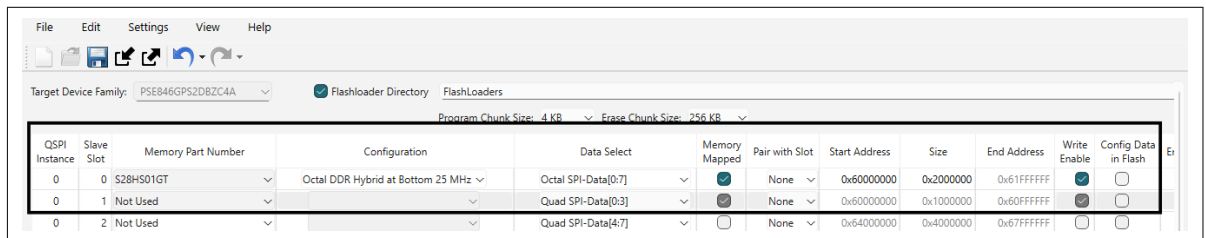

Figure 56 Enable the OSPI flash in QSPI Configurator
1. In the QSPI Configurator, select the OSPI Memory Part Number and select the configuration as needed. Disable the Quad SPI memory. An example configuration for OSPI supported by the PSOC™ Edge EVK is shown in Figure 56